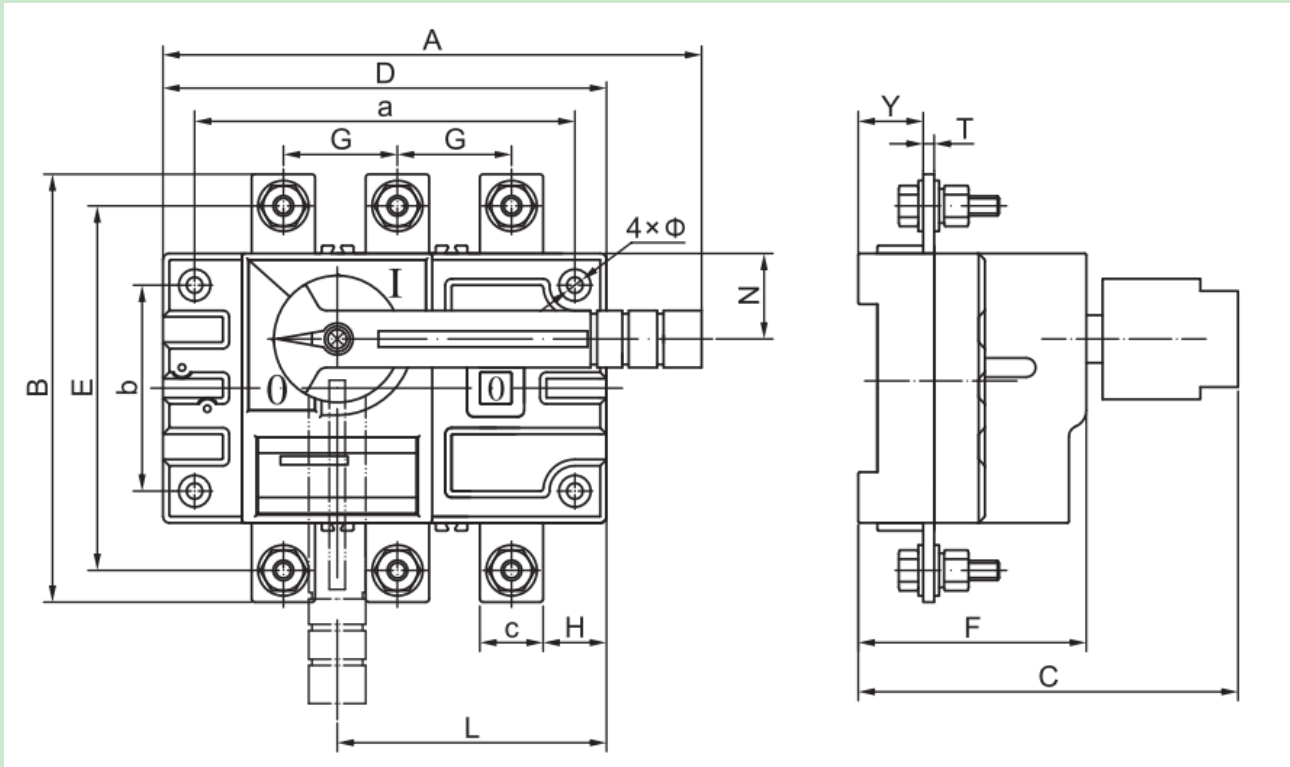

Fig.6. Installation dimensions of HGL and HGLi-125 ~630 switch disconnector in cabinets
6.3 The installation dimensions of HGL and HGLi -160~630 series disconnectors are illustrated in Fig. 6, Fig. 7, and Table 2